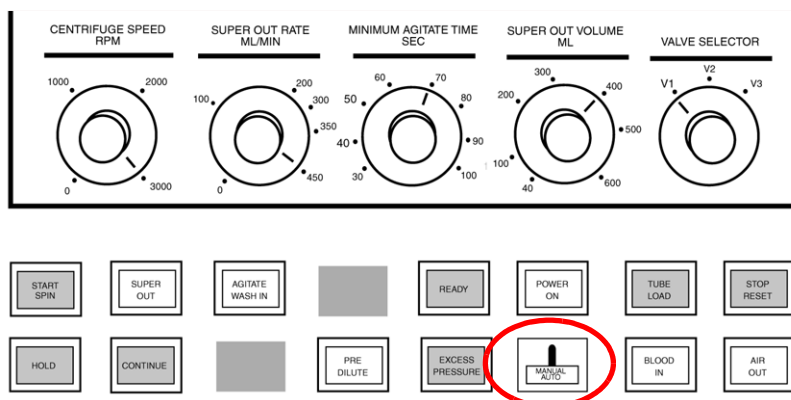

Figure 2-5: COBE 2991 operator controls (serial numbers lower than 2000 without a collect valve)
- COBE 2991s with serial numbers lower than 2000 and no collect valve are configured with an AUTO/MANUAL switch as shown in Figure 2-5.